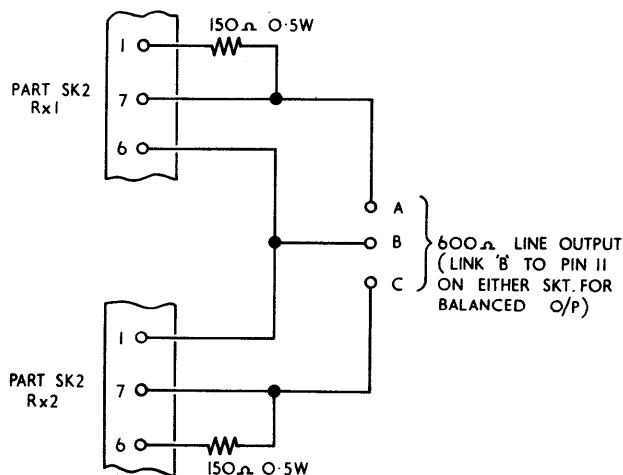

Fig. 5.1  $600\Omega$  LINE OUTPUT Connections for dual-diversity operation.
Two EC964/7 receivers can be operated in a dual-diversity mode by (1) interconnecting their DIVERSITY AGC outputs (pin 2 on the ANCILLARIES CONNECTOR, SK3), and (2) combining their  $600\Omega$  LINE OUTPUTS as shown in Fig. 5.1.